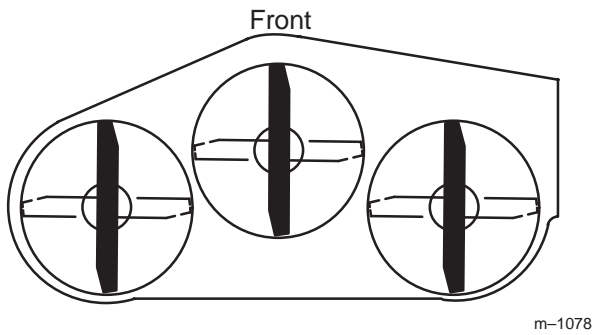
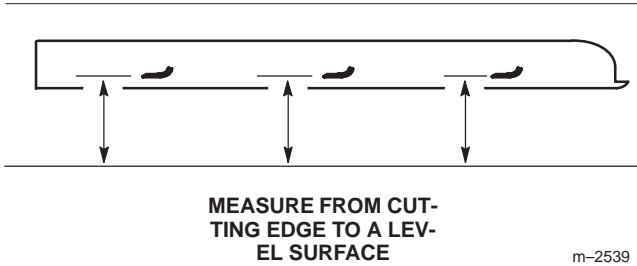

Figure 25
Figure 26
1. Rotate the blades until the ends face forward and backward (Fig. 25). Measure from a level surface to the cutting edge of the blades (Fig. 26). Note this dimension.